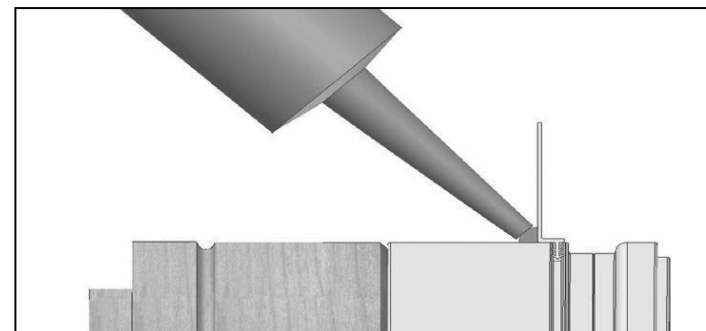

FIG. 12
- a. On all four sides, apply a 1/4" continuous bead of silicone along the backside of the nailing fin where it meets the frame. (Fig. 12)